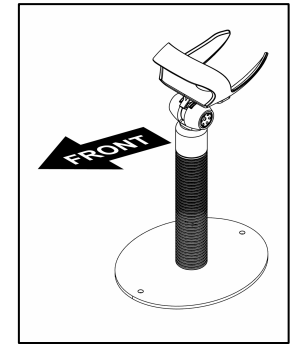

Figure 3.
2. When choosing the stand location, make sure to consider the front orientation of the stand (indicated in Figure 3).